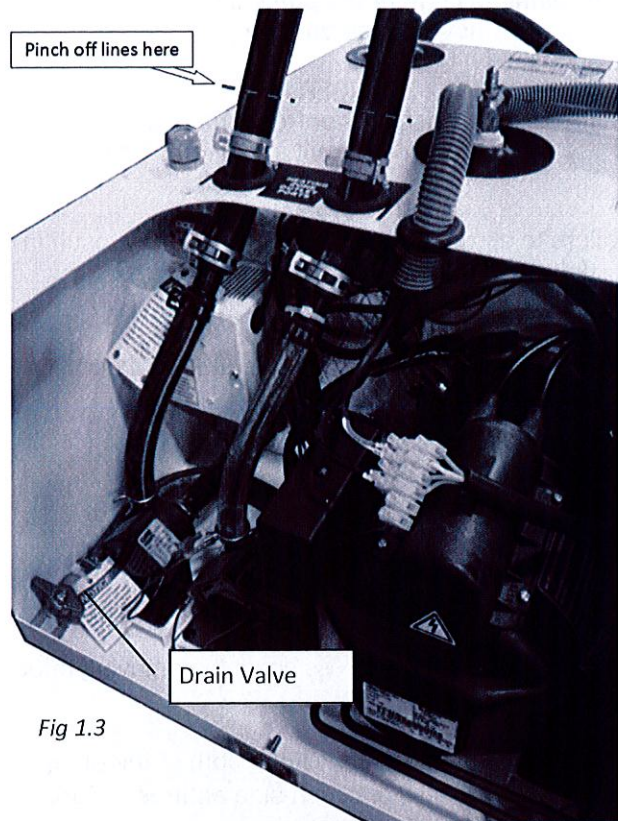

Fig 1.3
4. Use hose pinch-off pliers to clamp both of the pump hoses to prevent loss of coach-side antifreeze during pump removal (see fig 1.3).